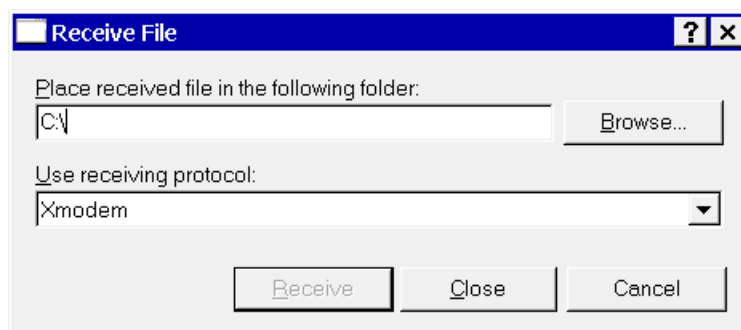

Figure 56: Receive File Settings
- Enter a folder where to save the file and use the XMODEM protocol. (See figure 56)